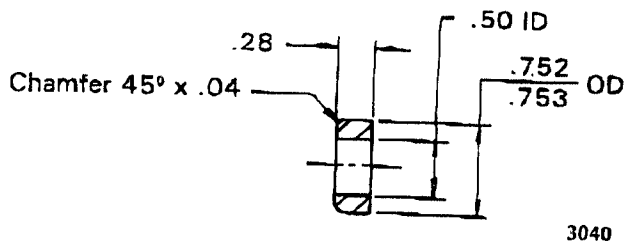

Figure 5. Repair Bushing Dimensions
1. Fabricate a repair bushing from A.M.S. 4118 aluminum, refer to Figure 5 for bushing dimensions.